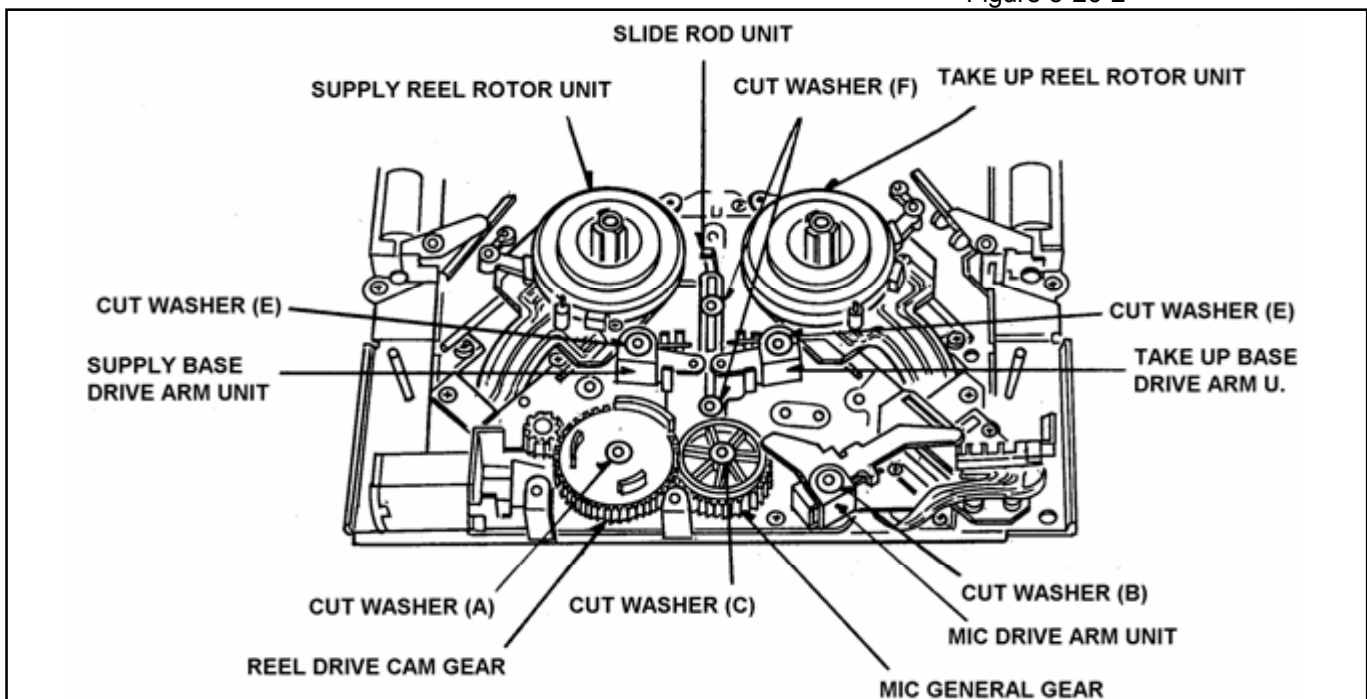

Figure 5-26-1
1. Remove the L-M Release Angle Unit. (Refer to item 5-25)
2. Remove the Reel Drive Sensor P.C.Board. (Refer to item 5-24).
3. Remove the Cut Washer (A) and remove the Reel Drive Cam Gear as shown in Figure 5-26-1.
4. Remove the Cut Washer (B) and remove the MIC Drive Arm Unit as shown in Figure 5-26-1.
5. Remove the Cut Washer (C) and remove the MIC Geneva Gear as shown in Figure 5-26-1.
6. Install the Cut Washer (A), (B) and (C) as shown in Figure 5-26-1.